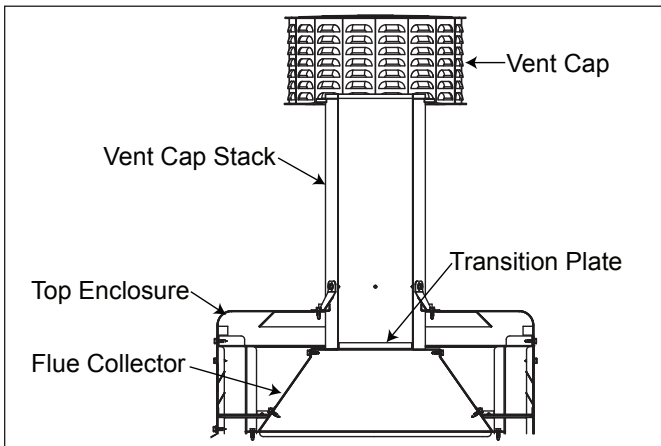

Figure 7. Cross-Section of Assembled Installation
12. When installing a draft hood or a painted vent cap use the slotted holes in the clips as guides to drill three (3) 1/8" diameter holes in the stack. Be sure stack is seated properly to the transition plate before drilling the holes into place.
13. Figure 7 shows a cross-section of the finished installation.